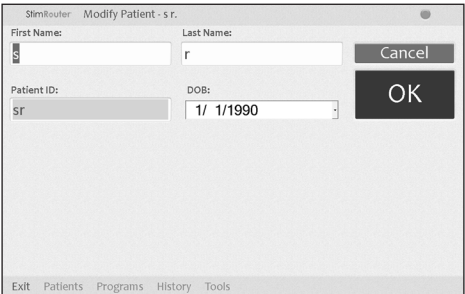

Figure 7-5: Modifying a Patient Record
2. Enter changes to the patient’s first or last name, and then press the “OK” button. **See Figure 7-5.**